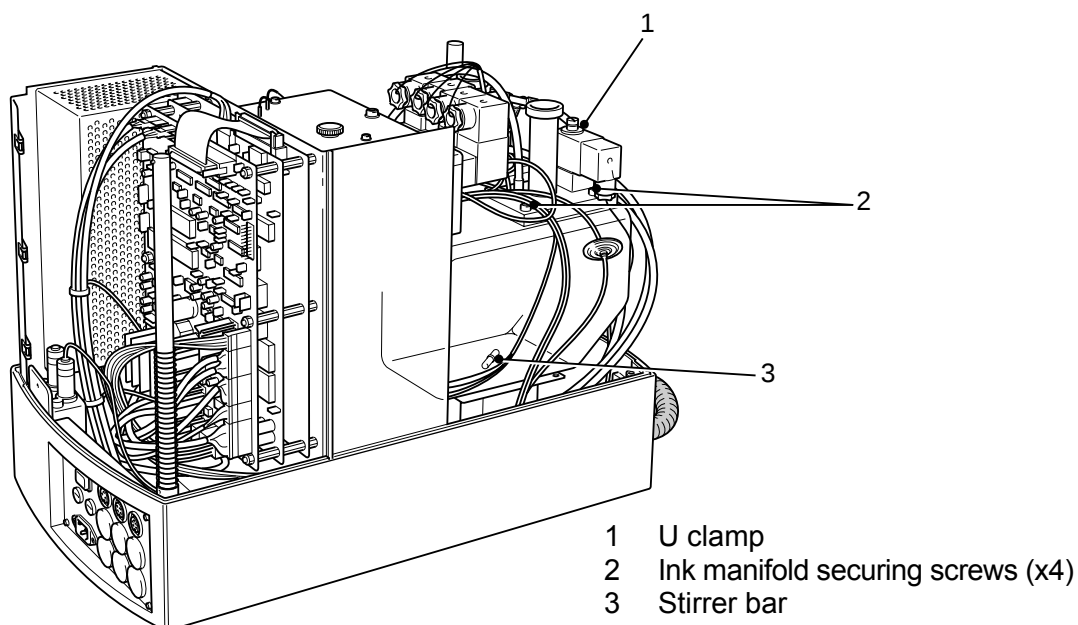

Fig 11.43 Ink reservoir stirrer bar
- 70.1 Remove the top U-clamp (Fig 11.43 (1)) from valve V2 on the ink manifold. Rotate valve V2 by 90° anticlockwise.
- 71.1 Use a pair of long nosed pliers to locate the stirrer bar in the bottom of the ink reservoir as shown at Fig 11.43.
- 71.4 Orientate valve V2 by 90° clockwise as shown at Fig 11.43. Fit the top U clamp to valve V2.